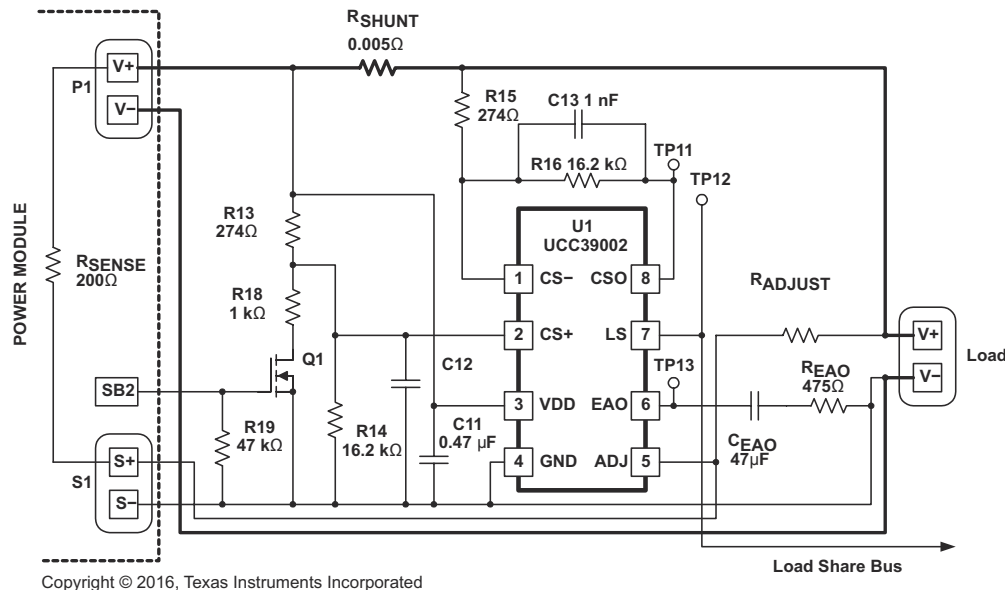

Figure 7-1. Typical High-Side Application for a Single Power Module
Figure 7-1 shows a typical high-side current-sense configuration for a single module which is repeated for each module to be paralleled. Direct connection of the VDD pin to the power module V_{OUT} rail (V+) is valid for V_{OUT} less than 13.5V.
In Figure 7-1, P1 represents the output-voltage connector terminals of the module and S1 represents the remote-sense connector terminals of the module. In this example, a signal on the SB2 terminal enables the disconnect feature of the device. The Load-Share Bus is the common bus between all of the paralleled load-share controllers. The VDD supply must be decoupled with a good-quality ceramic capacitor returned directly to GND.
Referring to 図 7-1, the DC gain of the CSA is equal to R16/R15, and a high-frequency roll-off pole used for noise filtering is set by C13. These component values are repeated at R14, R13, and C12 on the CS+ pin of the differential amplifier, as shown.
where (referring to 図 7-1)
- A_{CSA} is the DC gain of the Current-Sense Amplifier. (R15, R16 refer to Figure 7-1.)